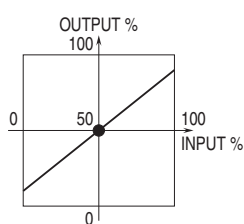

Fig. 6
2) With 50% input (actuator position), check that the output is approximately 50%. See Figure 6.